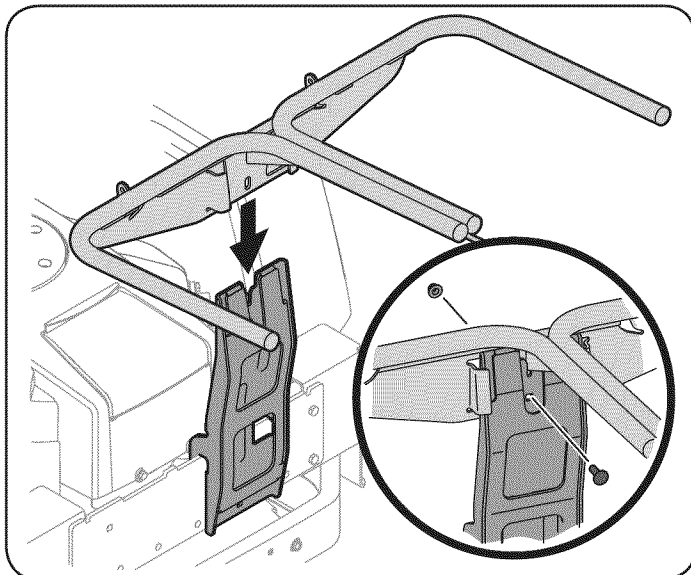

Figure 5
6. Install and secure the hanger assembly onto the upright support bracket using a 710-0276 carriage bolt and 712-04063 flange lock nut from hardware pack 689-00320. See Figure 5.
7. Snap the plastic upper chute support in place by first clipping the side portion onto the bagger support rail (1) with the edge of the snap feature aligned with the line on the label, as shown in the inset of Figure 5.
8. Snap the front side of the chute support to the rail (2), as shown in Figure 5.